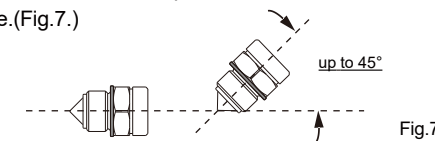

Fig.7
- We recommend the following installation below. The horizontal plane parallel to the 0° ~ 45° for optimal installation angle.(Fig.7.)